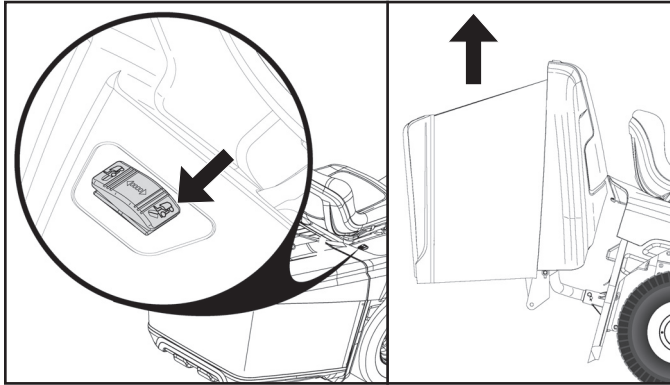

Fig. 35
TO OPERATE ELECTRIC DUMP SYSTEM (See Fig. 35 and 36)
- To lift the bagger, press the switch forward. (See Fig. 35)